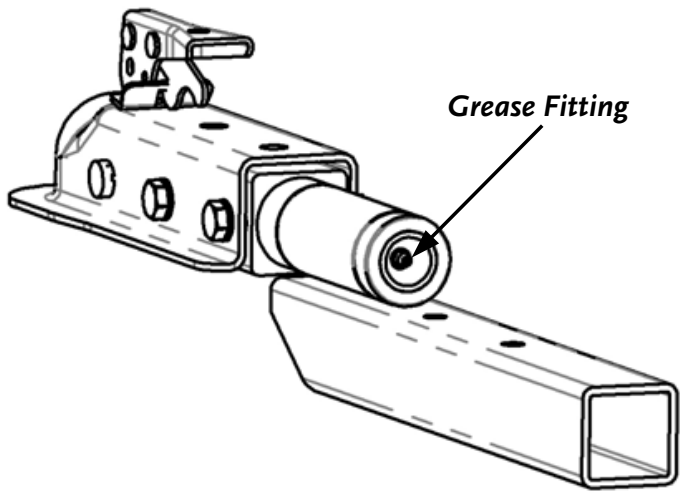

Figure 55
2. Apply enough quality general-purpose lithium grease with a hand-pumped grease gun to each Axle Pivot Pin and Tow Hitch Swivel Zerk Fitting, so a small amount of Grease comes out of the Fitting(s) (**Figures 55 & 56**)